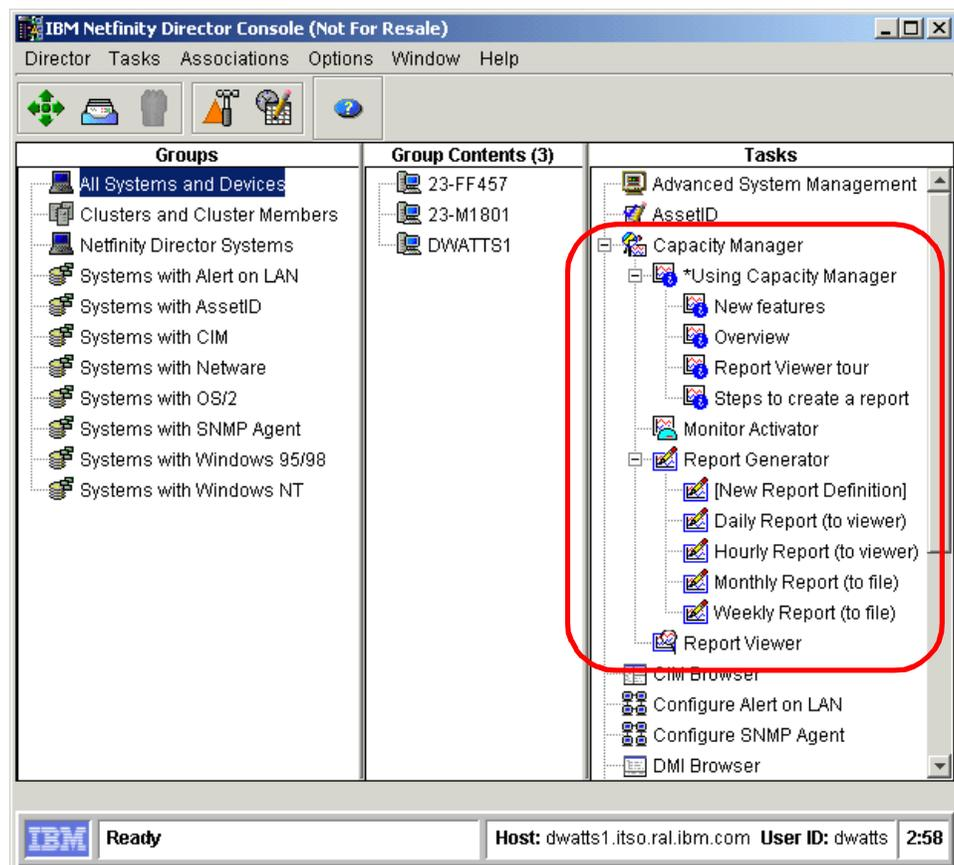
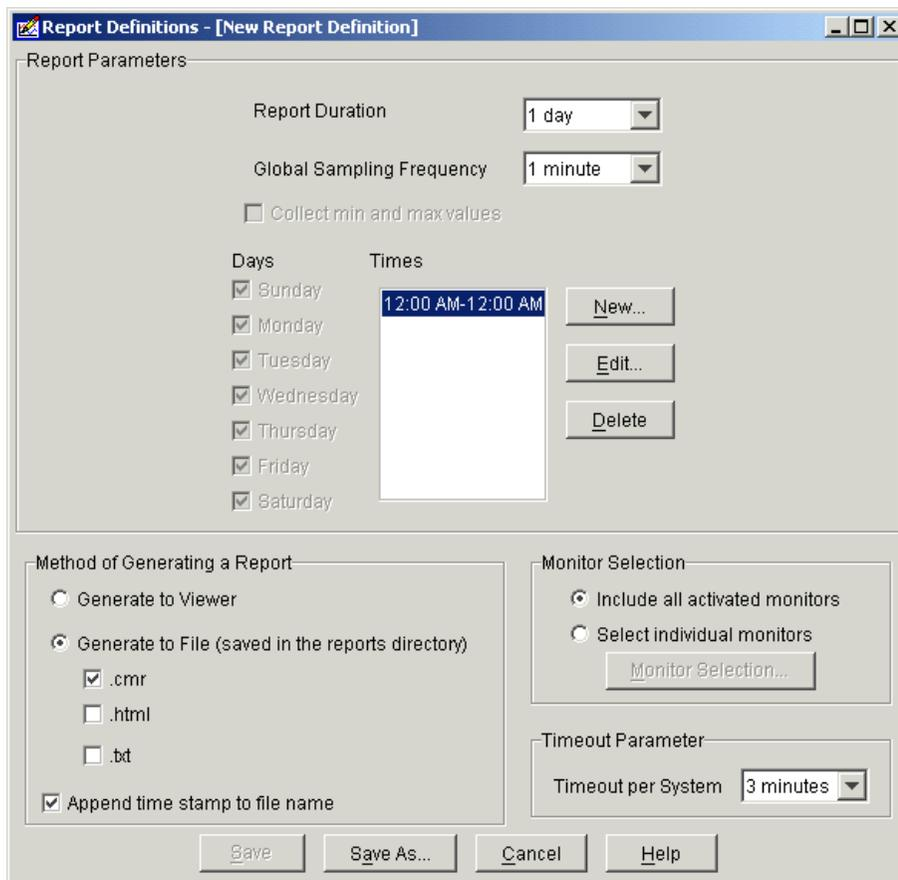

Figure 131. Netfinity Director management console — Capacity Manager tasks
Figure 133. New Report Definition
Capacity Manager is part of the UM Server Extensions for Netfinity Director. When you install these extensions, the Capacity Manager icons will appear in the task pane of Netfinity Director as shown in Figure 131.
1. Double-click any of the four Using Capacity Manager tasks (as shown in Figure 131) to learn about Capacity Manager:
There are four predefined report definitions as shown in Figure 131 on page 139. These are:
To create a new report definition, double-click **[New Report Definition]** in the Netfinity Director management console (Figure 131 on page 139). Figure 133 appears:
Optionally, you can now override the global sampling frequency you sent in the Report Definition window (Figure 133 on page 142).
You can also override the global setting for collecting minimum and maximum values for the specific monitor. Do this by changing the check box collect Min and Max values. The default of this check box is the global setting you set in the Report Definition window (Figure 133 on page 142).
Regardless of which you pick, the report is saved to a file on the *server* (not the console). The name of the report is the name of the report definition, plus the time and date the report was created, if you selected the option **Append time stamp to file name** in Figure 133 on page 142.